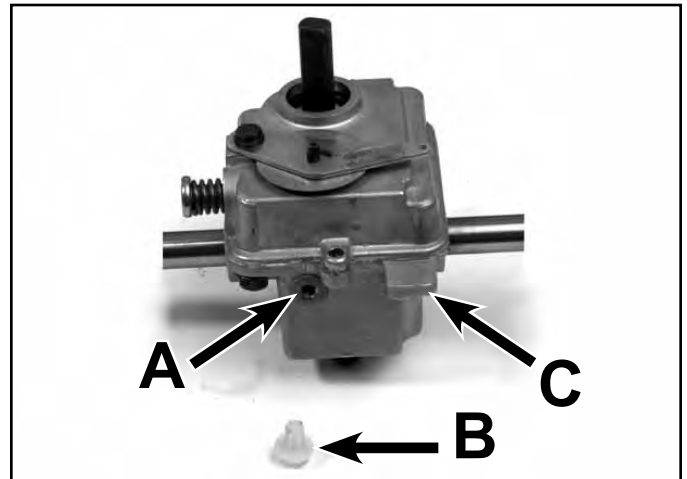

Fig 009
**Note:** Support the wheel pinions with the wood block while driving the roll pins in. This will prevent the axle from being bent. Fill the transmission with oil after it is installed in the mower (Fig. 009).